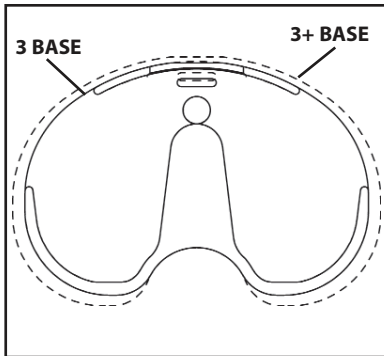

FIGURE 25 |
**NOTE** | In all ADVANCE® Total Knee Systems, with the exception of the ADVANCE® Double-High Knee, the tibial insert size must match the femoral implant size. There are two tibial base sizes that can be used with any one size femoral component. | **CHART 1** For example, a size 3 femoral implant can be used with either a size 3 or 3+ tibial base. | **FIGURE 25** When using the ADVANCE® Double-High insert, a femoral component one size greater than the tibial insert may be utilized. For example, a size 3 ADVANCE® Double-High insert may be used with a size 3 or 4 femur and a size 3 or 3+ tibial base. | **CHART 2**